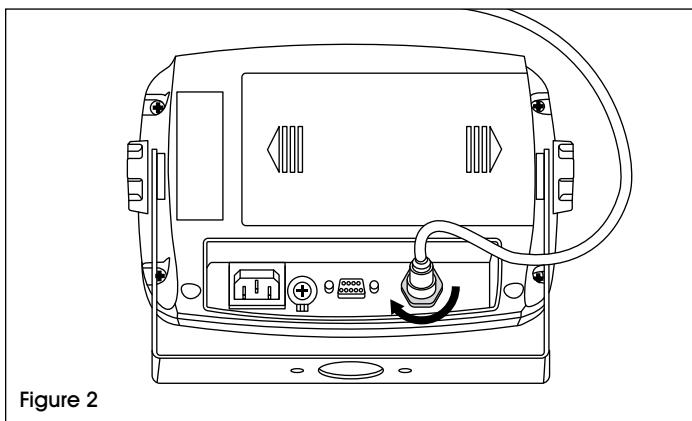

Figure 2
1. Plug the base's connector into external load cell connector at the back. (See Figure 2)
2. Rotate base connector locking ring to secure. (See Figure 2)